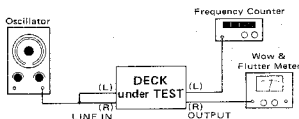

Fig. 4-5
1. Connect a frequency counter to the deck as shown in Fig. 4-5.
1. Connect a wow-and-flutter meter to the deck as shown in Fig. 4-5.